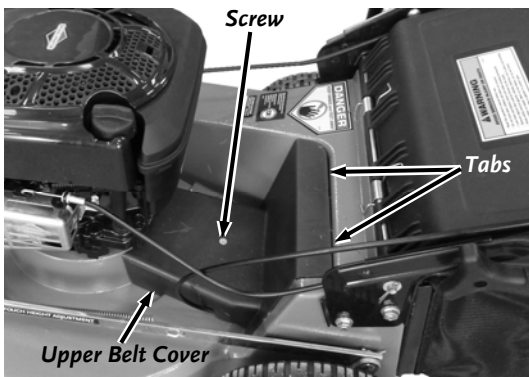

Figure 20
1. Remove the Screw from the upper Belt Cover and remove the Belt Cover (Figure 20).